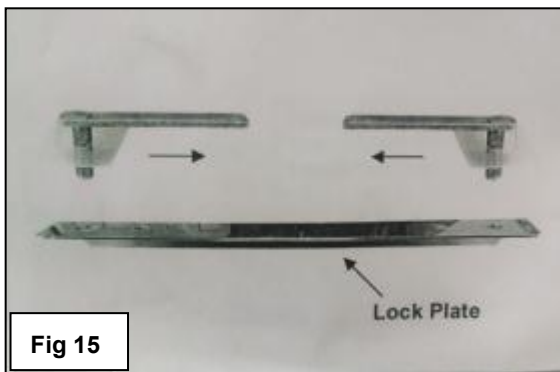
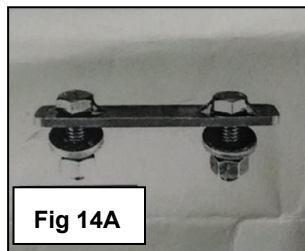
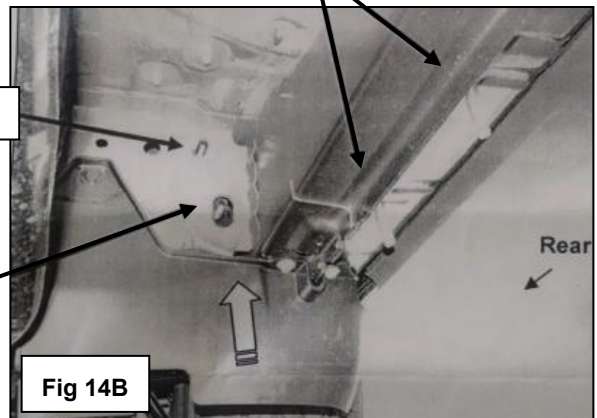

Fig 15
Fig 14A
Fig 14B
11	<p>Move to the rear mounting location in front of the driver side rear tire opening. Locate the large oval and the round holes in the inner body panel in front of the rear tire. (Figure 13). Select (1) M10 Double Bolt Plate and (1) M10 Plastic Retainer, (Figure 14A). Insert the Bolt Plate into the oval hole and up and out of the smaller round hole above it. Thread the Plastic Retainer onto the Bolt Plate in the round hole only, (Figure 14B)</p>
12	<p>Locate the last (2) round holes along the floor panel, (Figure 14B). Repeat Steps 2-5 to install the (2) Bolt Plates and Lock Plate, (Figures 15 &amp; 16). NOTE: Attach the Lock Plate to the front Bolt Plate only with (1) M10 Flat Washer, (1) M10 Lock Washer and (1) M10 Hex Nut, (Figure 16). Tighten the Hex Nut at this time.</p>